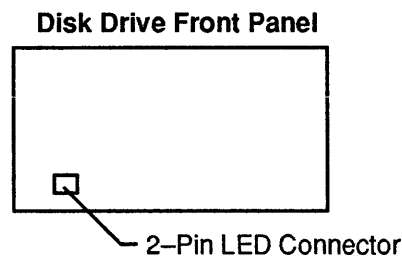

Figure C.10. Location of LED Cable Connector
7. Slide the Disk Drive partially into the mounting slot in the Expansion Cabinet. Before sliding the Disk Drive completely into the mounting slot, connect the LED cable to the front panel of the Disk Drive. The LED cable has a 2-pin connector that is keyed. Figure C.10 shows the location of the LED cable connector on the front panel of the Disk Drive.